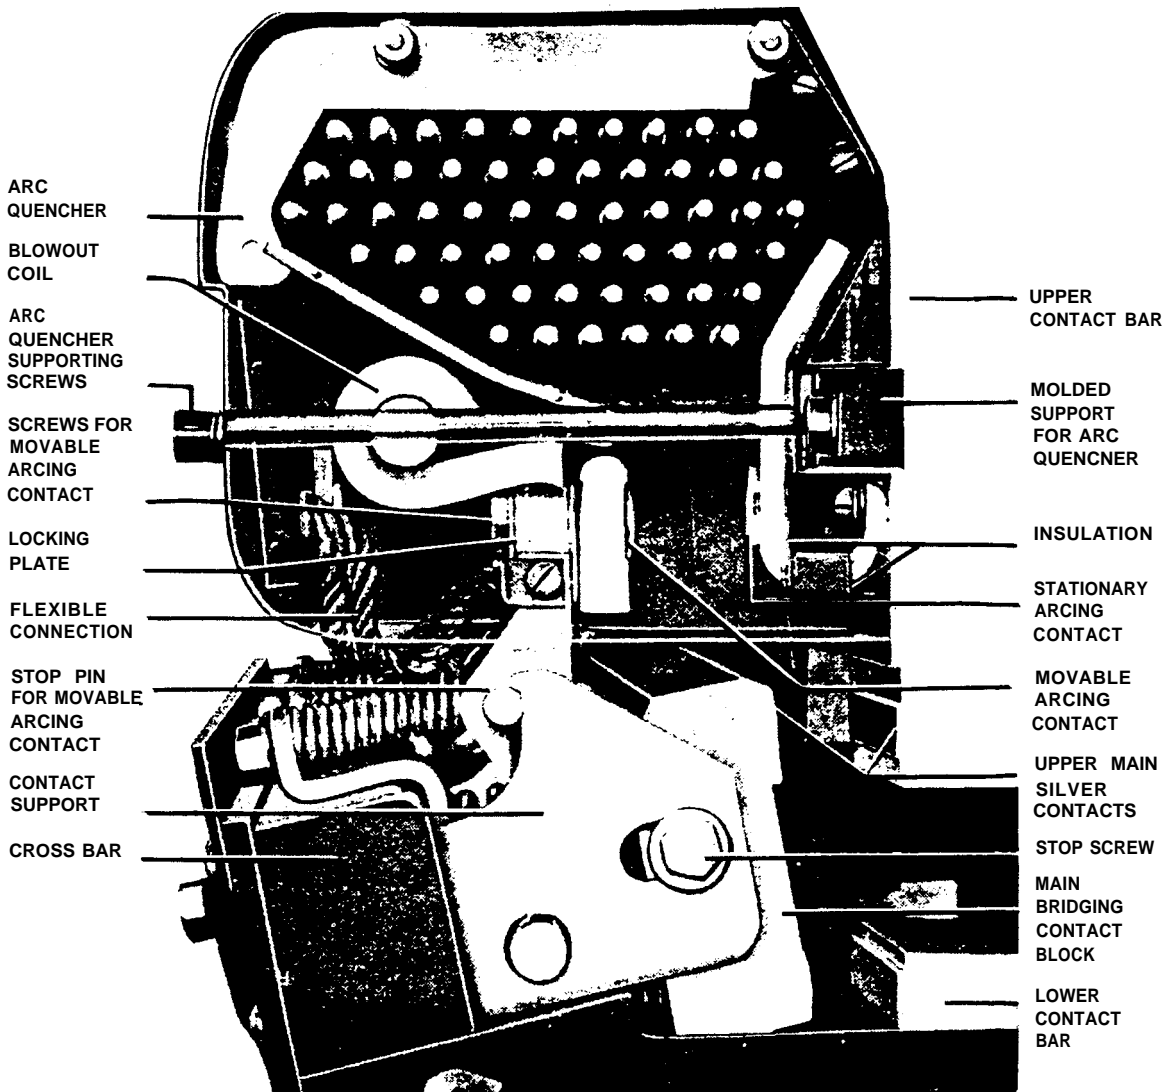

Figure 2-10. Typical contact construction for a network protector.
- (1) Clean the breaker assembly. Use of a vacuum cleaner is preferred. Use cloth rags free of oil or grease for removing clinging dirt.
- (2) Remove arc quenchers. Replace if damaged.
- (3) Inspect main contacts (fig 2-10). Smooth any heavily frosted area with a very fine file or a burnishing stone which does not shed abrasive particles. Protect hinged joints from falling particles during filing.
- (4) File smooth any especially high projections of metal on arcing contacts.
- (5) See that all electrical connections are tight.
- (6) Look for any abrasion of wire insulation and repair.
- (7) Check for signs of overheating of control wire and current carrying parts.
- (8) See that all springs are in good condition and are properly seated in place.
- (9) See that all nuts, pins, snap rings or retainers, and screws are in place and tight.
- (10) Replace any broken or missing barriers.
- (11) With the rollout unit still set aside, perform the following maintenance operations inside the enclosure: